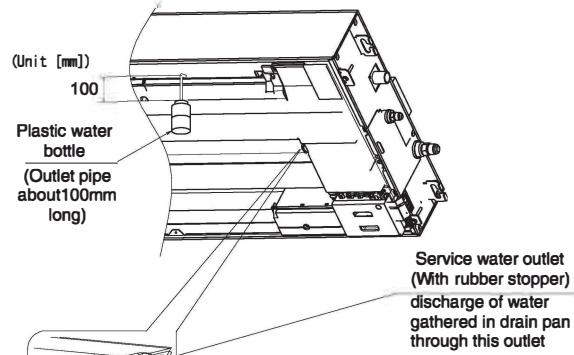

Figure 18 [Water adding method]
- After completing drainage inspection (Figures 18 and 19), shut off the power supply and remove the power wiring.